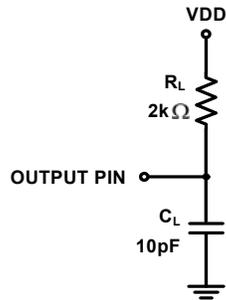

FIGURE 2. EQUIVALENT LOAD CIRCUIT FOR DIGITAL OUTPUT TESTING
- 8. Transition time to high impedance state is dominated by RC loading on the SDOUT pin. Specified value is measured using equivalent loading shown in Figure 2.